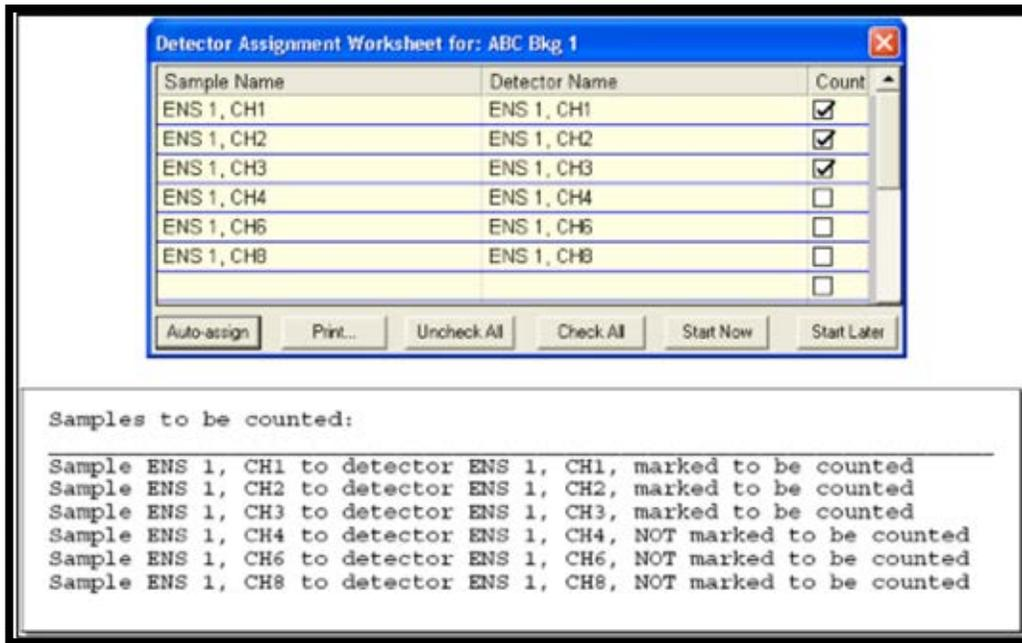

Figure 115. Example Detector Worksheet and Corresponding Printout
- After all detector assignments have been made and all count-now/count-later decisions have been made, users can optionally **Print** the worksheet (see Figure 115) as an aid in loading each sample into the correct alpha chamber. Notice that the